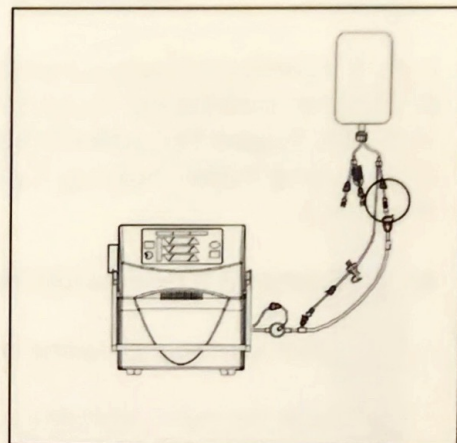

Fig. 1
4. Clamp and disconnect the arterial patient line (red clamp), reconnect it to the priming spike (red port), then unclamp (see fig. 1).